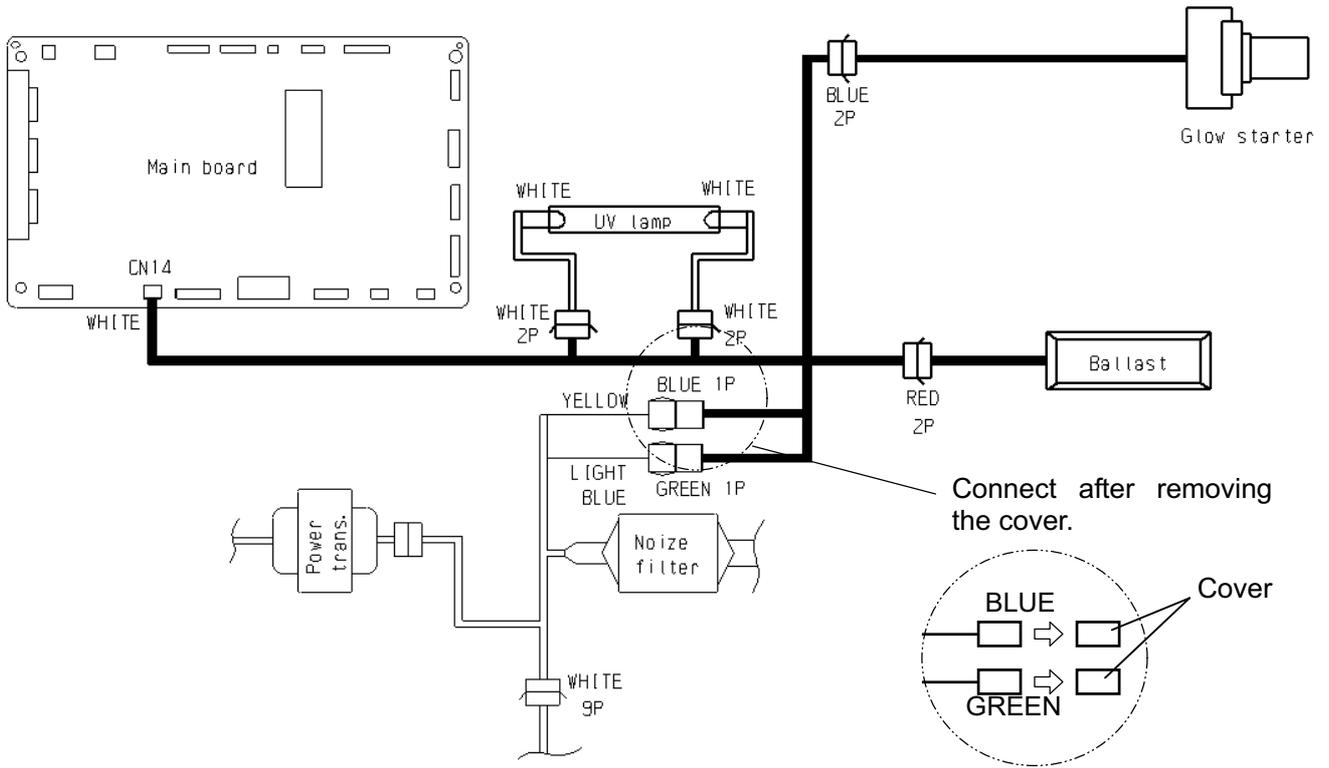

Fig.8
9. Connect each lead wire connector of ballast/glow assy, as shown in Fig. 8.